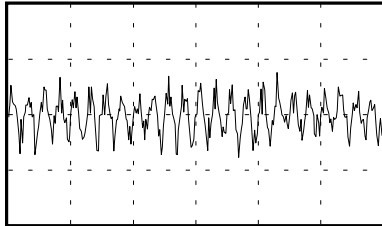
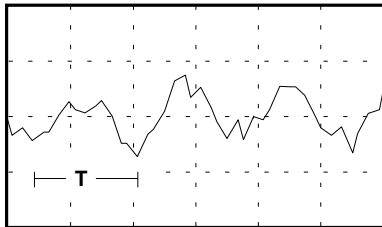

Fig. 2: Random voltage with **Rate = 0**
Fig. 3: Random voltage with **Rate = 10**
Use control ③ to adjust the **cycle time T** of the random voltage at output ③. T is a theoretical figure, because of the random voltages the module produces. In practice, a setting of 0 on the knob means fast changes in voltage, producing a spectrum similar to pink noise (see Fig. 2); and 10 means slow changes (see Fig. 3).